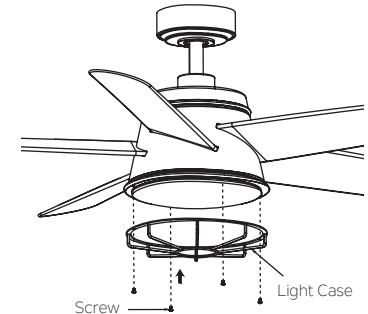

Fig. 23
Step 3. Hold the light case up to the switch housing, align with 4 holes and securely tighten with 4 screws found in the hardware pack.(Fig. 23)